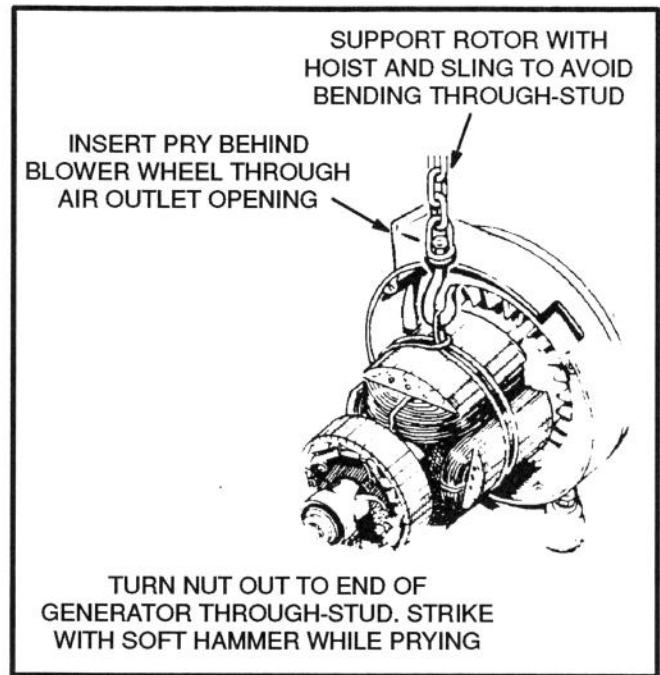

FIGURE 5-15. ROTOR REMOVAL
9. Support rotor with hoist and sling to avoid bending rotor through-stud (Figure 5-15).